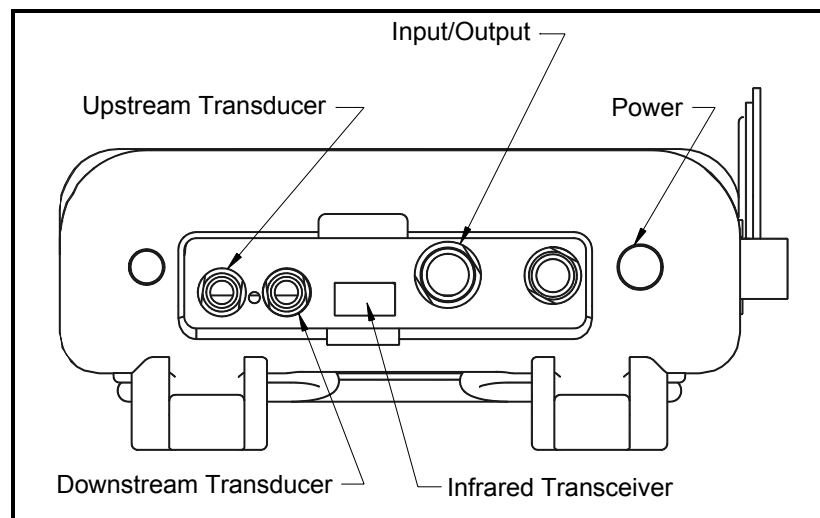

Figure 1-1: Electrical Connection Locations
All electrical connections are made to the top of the PT878 as shown in Figure 1-1 below.
- Regardless of which power option is chosen, you must connect the power cord as shown in Figure 1-1 on the previous page.
- Transducer Connections** The transducer cables connect to the PT878 with LEMO[®] coaxial type connectors. Each color-coded cable should have a collar labeled UPSTREAM or DOWNSTREAM. Make transducer cable connections to the top of the flowmeter as shown in Figure 1-1 on the previous page. Because there are various types of transducers and installations, detailed transducer installation is discussed separately in the *Liquid Transducer Installation Guide* (916-055).
- Input/Output Connections** The PT878 provides one 0/4-20 mA current output and two 4-20 mA analog inputs with switchable 16V supply for loop- powered temperature transmitters. It also supports digital, frequency, and totalizer outputs. Connect the inputs/outputs using a LEMO[®] multi-pin connector as shown in Figure 1-1 on the previous page. The pin numbers for the connector and the color code for the standard input/output cable are shown in Table 1-1 on the next page.
The PT878 comes equipped with an internal infrared transceiver (shown in Figure 1-1 on page 1-2) that enables communication between the meter and other IR devices, particularly the IR ports or dongles (IR to RS232 adapters) of Windows®-based PCs. Users can send and receive site and log data; they can also program the meter via the optional PanaView™ software interface. The PT878 was designed for use with products that comply with the IrDA protocol.
To charge the batteries, simply plug the AC power module cord into the power jack (shown in Figure 1-1 on page 1-2) and be sure the battery pack is installed. When the PT878 is plugged into line voltage, the internal battery charger automatically charges the batteries, whether the PT878 is ON or OFF. If the PT878 is ON, the Battery icon in the upper right corner of the screen indicates battery status (as shown in Table 1-2 below).